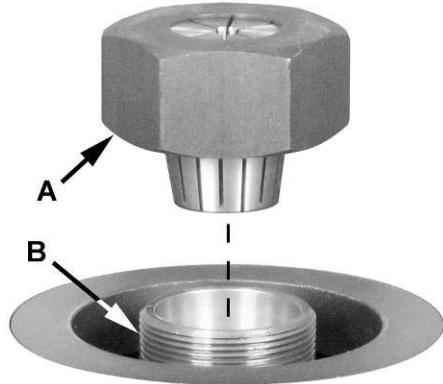

Figure 17
2. Place the *router collet* (A, Fig. 17) onto the *spindle* (B, Fig. 17) and secure with the wrench (K, Fig. 15) provided.
Turn the *router collet* (A, Fig. 17) by hand to verify that it turns freely.